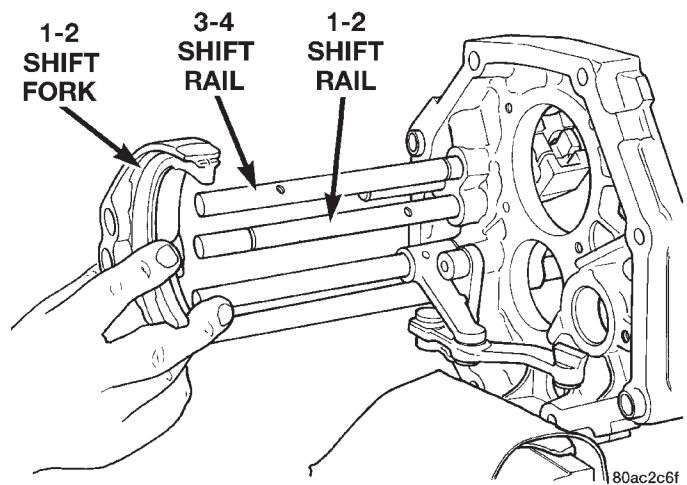

Fig. 65 Remove 1-2 Shift Fork
(19) Remove the snap-ring from near the end of the 1-2 shift rail to allow the removal of the 1-2 shift fork.
(20) Remove the 1-2 shift fork from the 1-2 and the 3-4 shift rails (Fig. 65).